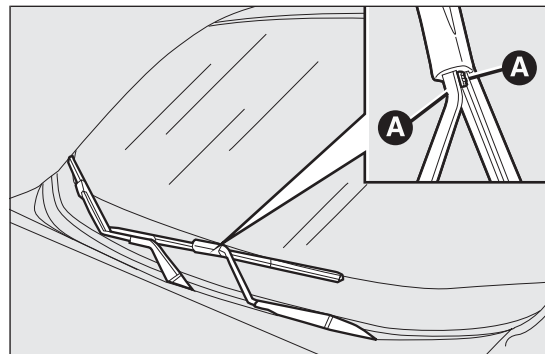

fig. 174
- ☐ press tabs A fig. 174 and remove the blade from the arm;